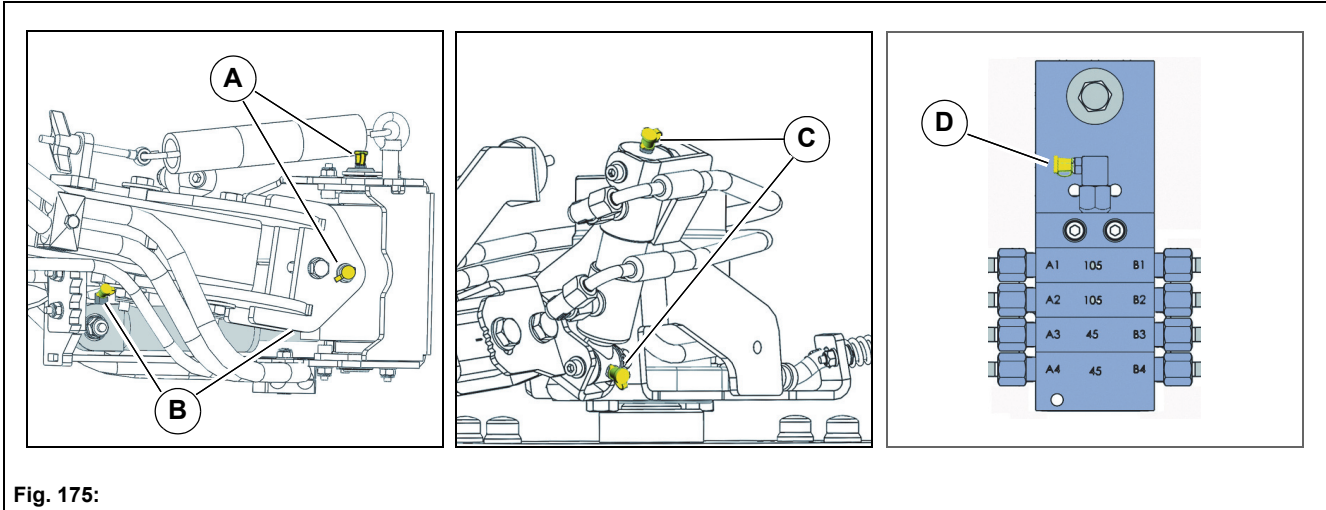

Fig. 175:
- Sweeping unit brush arm rotating joint left/right (x4) **Fig. 175-A**
- Sweeping unit swivelling cylinder left/right (x4) **Fig. 175-B**
- Swivelling unit right-hand brush (x2) (optional) **Fig. 175-C**
- Single-point lubrication system sweeping unit (x1) (optional) **Fig. 175-D**